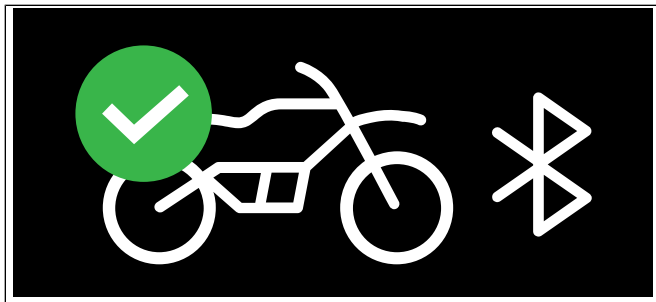

Figure 9. Good Connection
- a. Figure 9 If BCI is communicating properly with the computer, the icon in the lower left corner of the screen will display a successful connection.